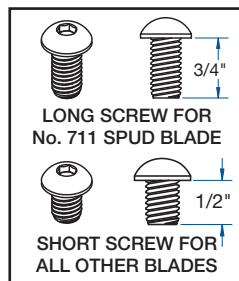

Figure 7
- Use the longer ¾" screws with the No. 711 Spud Blade. Use the shorter ½" screws with all other blades. (See Figure 7 above.)